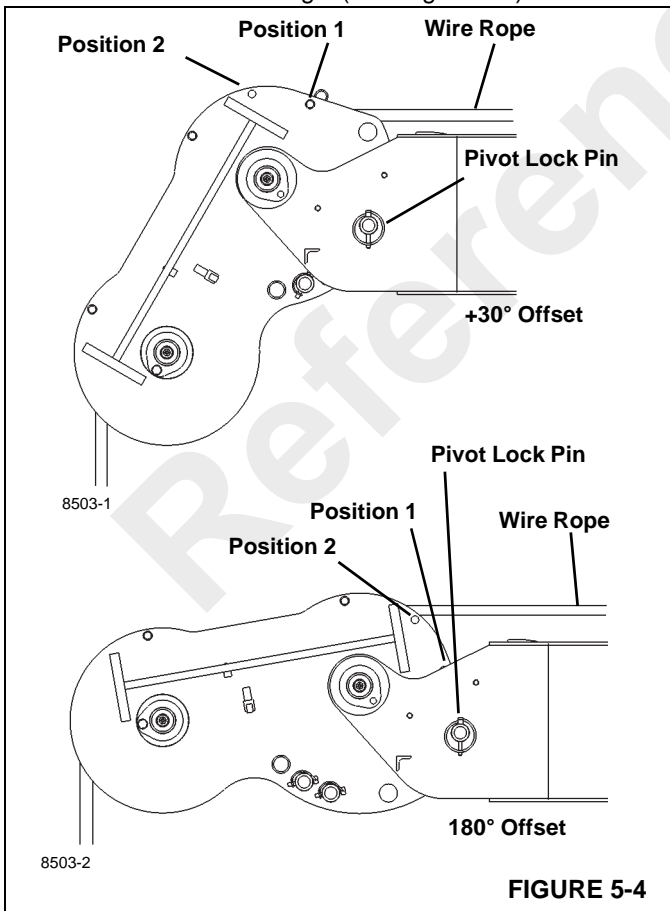

FIGURE 5-4
7. When offsetting boom head (Figure 5-4) to $+30^\circ$ move rope retention pin from position 1 to position 2 and run rope between pin and sheave wheel.
8. When offsetting boom head (Figure 5-4) to 180° move rope retention pin from position 1 to position 2 and run rope above pin and sheave wheel.
9. After installing the rope retention pin and retaining clip into the boom head (Figure 5-4). Check that the wire rope is not contacting retention pin at the top of the boom head.
4. Remove the lynch pin from the pivot lock pin (Figure 5-4).
9. When offsetting boom head (Figure 5-4) to +30° move rope retention pin from position 1 to position 2 and run rope between pin and sheave wheel. Check that the wire rope is not contacting retention pin at the top of the boom head.